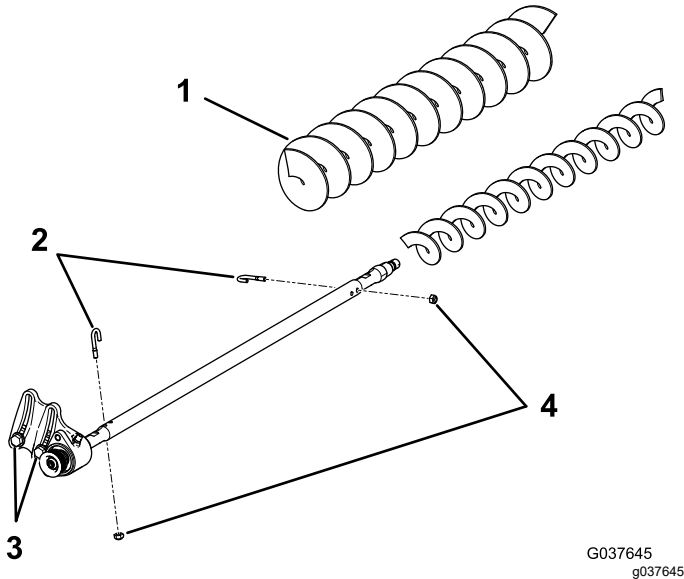

Figure 22
3. Remove the 2 J-bolts and the nuts (Figure 22).
4. Slide the existing brush off the brush shaft (Figure 22).
5. Loosen the 2 bolts, washers, and nuts securing the drive-bearing housing to the bearing-housing mounting bracket (Figure 22).
6. Slide the high height-of-cut brush onto the brush shaft (Figure 22).
7. Clamp the brush onto the shaft with the 2 J-bolts and nuts previously removed (Figure 22).